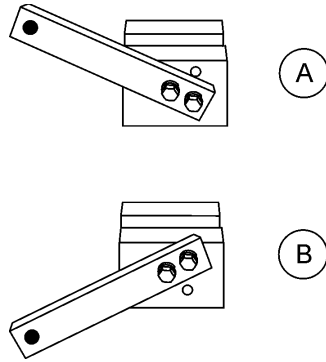

Figure 46. Trowel Arm Adjustment Setup
2. Ensure the fixture arm is in the proper setting (up or down) for your trowel arm rotation as shown in Figure 46.
Arms with CLOCKWISE blade rotation use the fixture arm in the UP position (Figure 46, A). Arms with COUNTERCLOCKWISE blade rotation use the fixture arm in the DOWN position (Figure 46, B).